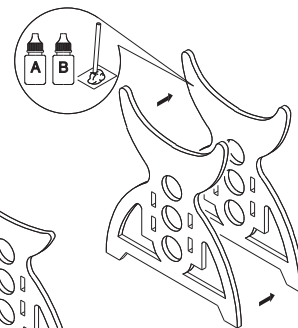

Fig. 2
1. Locate the die-cut plywood sheet Boat Stand **1**, shown in Fig. 1. Apply a thin coat of 5-minute epoxy to one side of each stand "half" as shown in Fig. 2, then tape or clamp parts together until the epoxy cures. Hint: Clothespins work well for this job.